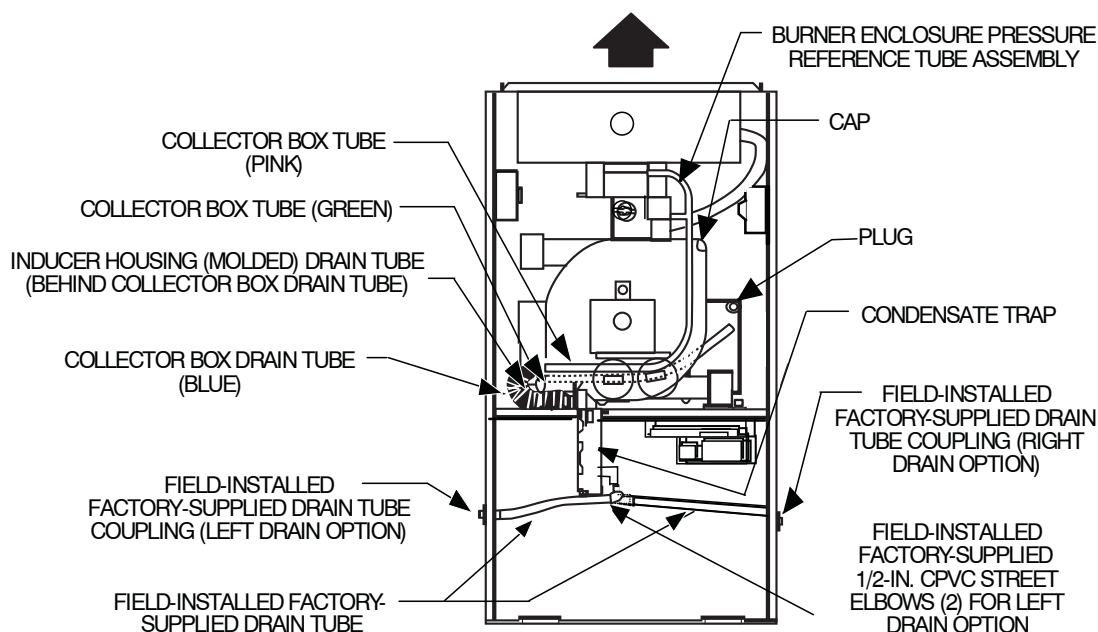

**Fig. 5 - Factory-Shipped Upflow Tube Configuration
5. If condensate trap is located in left- or right-hand side of furnace casing, proceed to item 6. Otherwise remove trap and tubing as described below: (See Fig. 5.)
- b. Connect condensate trap drain tubes. See Fig. 5 or tubing diagram on main furnace door for proper tube location.